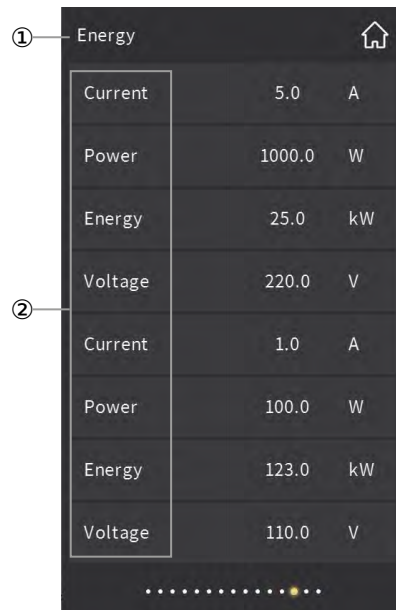

Fig. 2.8.1
- ① This area displays the page description identification of the Energy Metering Display Function Page, user can define the description through ETS;
- ② This area displays the identification of data description, user can define the description through ETS;
- Energy Metering Display interface shown as Fig.2.8.1, current, voltage, power and energy consumption can be displayed through parameter configuration. There are up to 8 items displayed in the interface, these data can be updated and displayed through the bus, such as Switch Actuator with Current Detection can provide the present value of current, power or energy consumption.